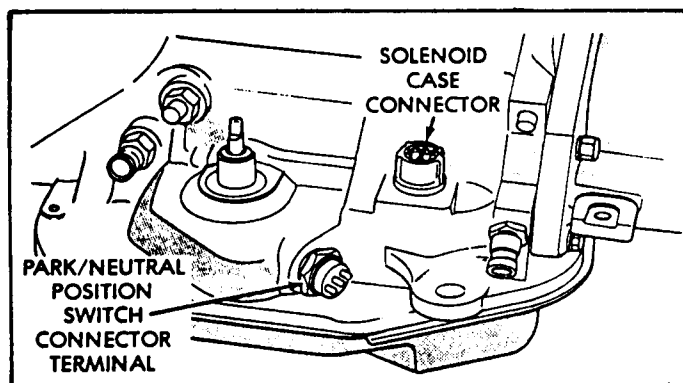

Figure 149
49. Install neutral safety switch as shown in Figure 149 and 150.